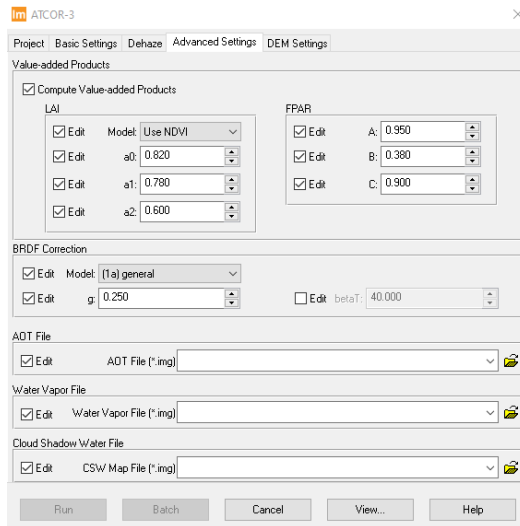

Figure 14: Advanced Settings Tab of ATCOR-3.
7. Navigate from the Basic Settings Tab to the **Advanced Settings Tab** (Figure 14) and edit the following parameters:
8. Navigate from the **Advanced Settings Tab to the **DEM Settings Tab** (Figure 14).**